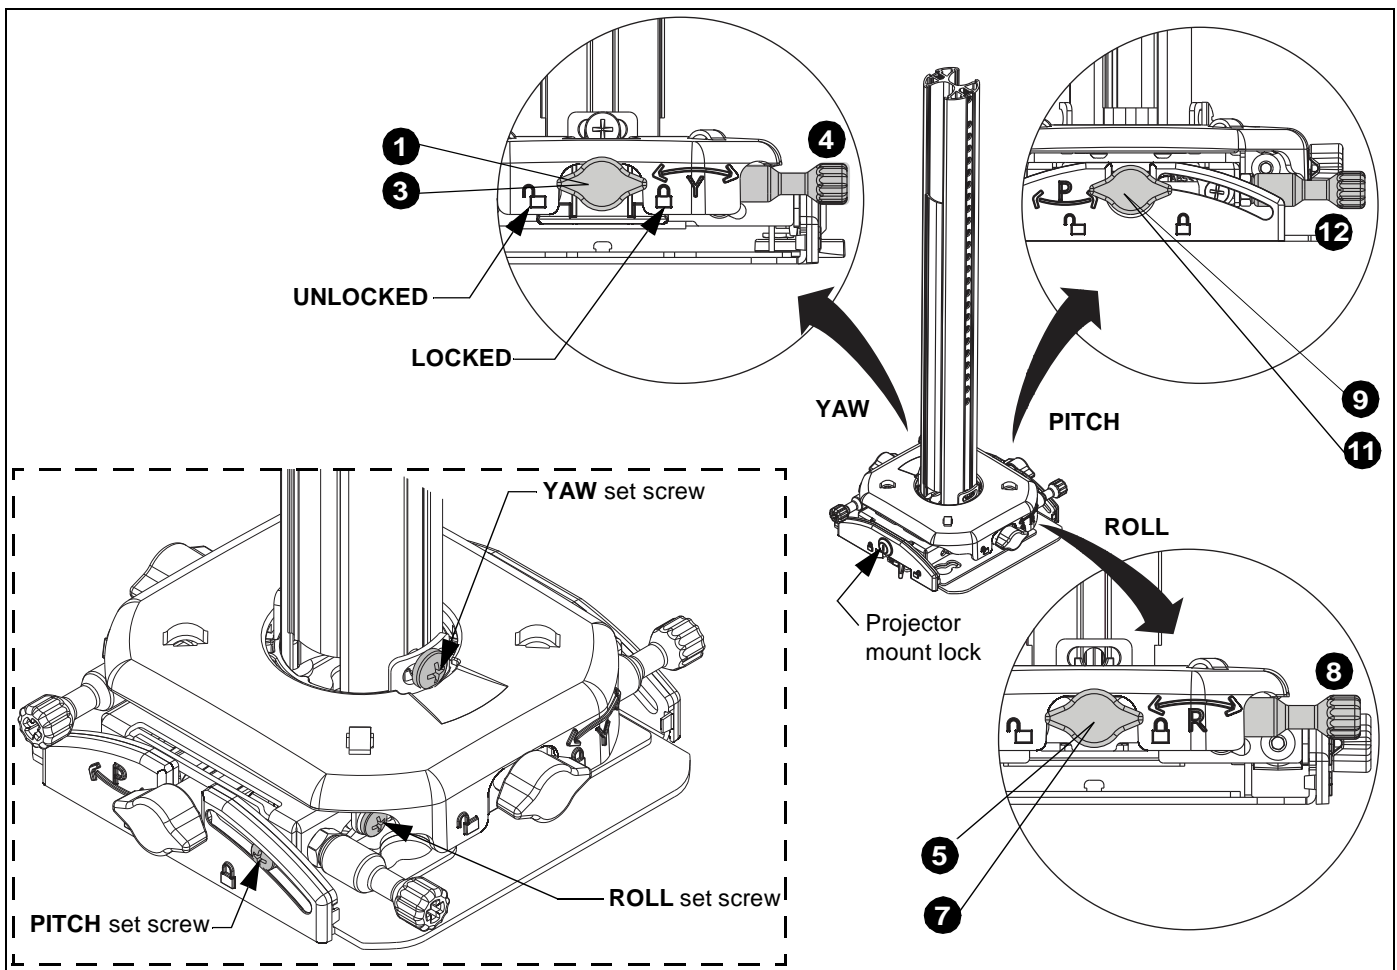

Figure 23
**NOTE:** Be sure to use the correct adjustment feature (**Yaw**, **Roll** or **Pitch**) when adjusting the projector mount. (See Figure 23)
4. Turn YAW micro-adjustment knob right or left until image is properly aligned on target. (See Figure 23)
8. Turn ROLL micro-adjustment knob right or left until image is properly aligned on target. (See Figure 23)
12. Turn PITCH micro-adjustment knob right or left until image is properly aligned on target. (See Figure 23)
**IMPORTANT !** : After adjustment, set screws may be tightened to secure Yaw, Roll and Pitch adjustments. (See Figure 23)